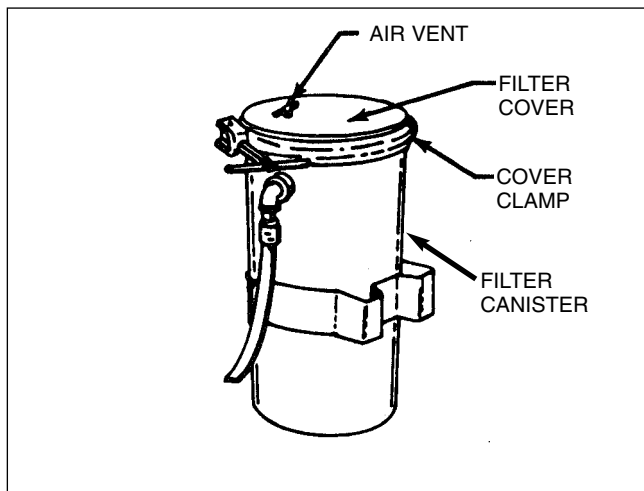

FIGURE 4-1, Filter Element
To replace Unit's Filter Element, proceed as follows (see Figure 4-1):
3. Open Air Vent in Filter Cover (refer to Figure 4-1).
3. Open air vent in filter cover (refer to Figure 4-1).